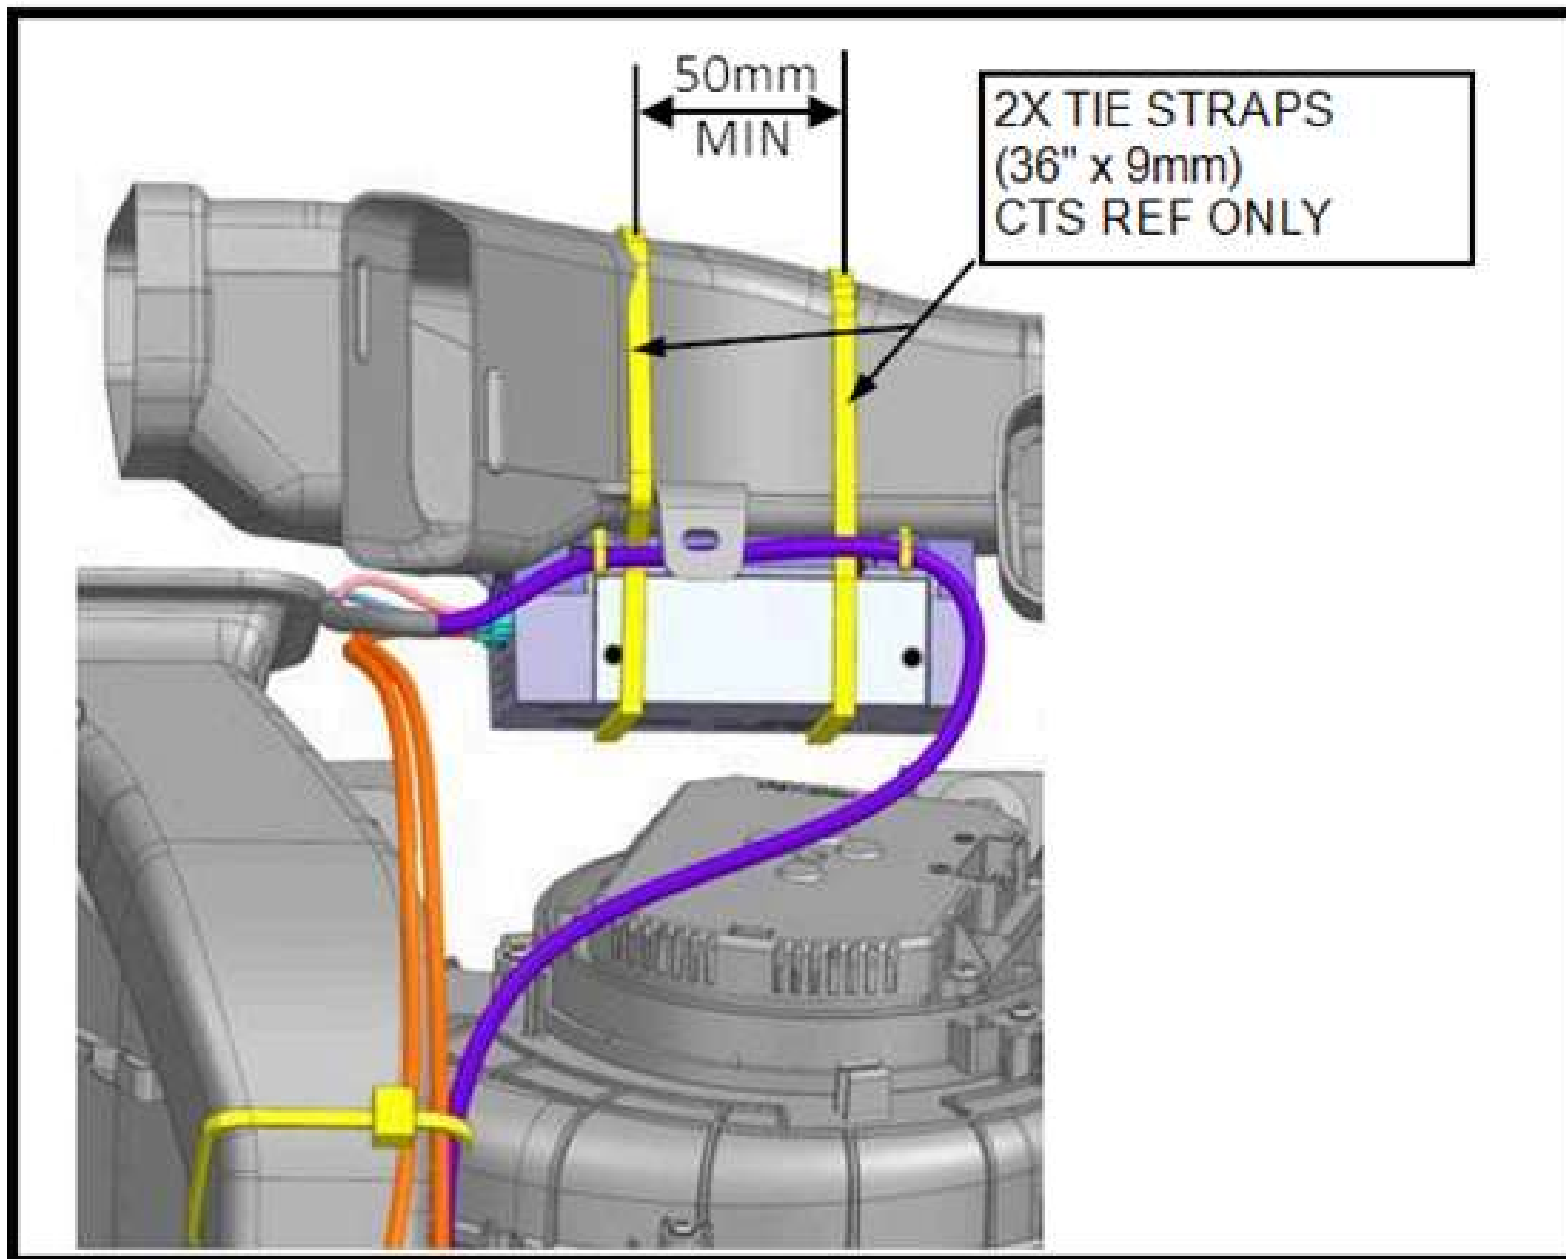

Figure 4
2. Ensure the Lytx SF500 ECU is correctly mounted and installed using 2 36" x 9mm tie straps reference Figure 4. Verify the 2 tie straps have an **approximate minimum gap** of 50mm or 2.0". The 2 tie straps must be fastened tightly, providing a secure mounting for the Lytx ECU. The ECU must not freely shift or rotate.